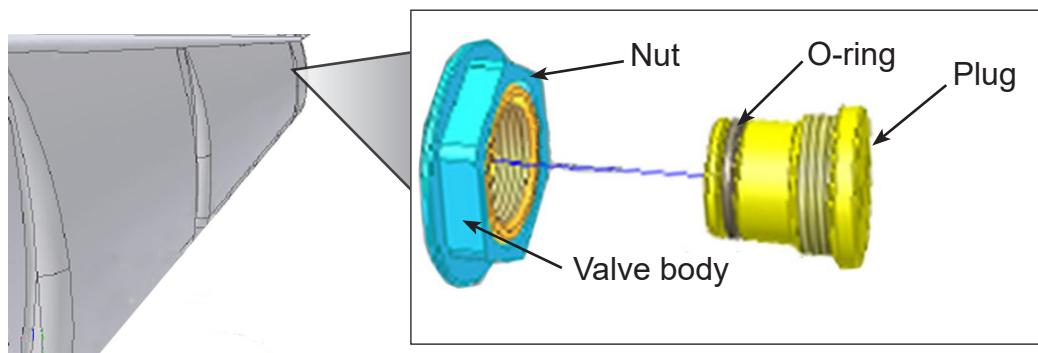

FIGURE 512
- (a) Make sure that the nut has been torqued correctly. Refer to **Chapter 1, TABLE 101** for correct torque values. Refer to **Figure 512**.
- (b) Use the correct tool and a suitable 3/8 " square drive wrench to remove the plug. Refer to **Figure 512**.
- (m) Attach the plug provided with the H-Pack. Refer to **Figure 512**.